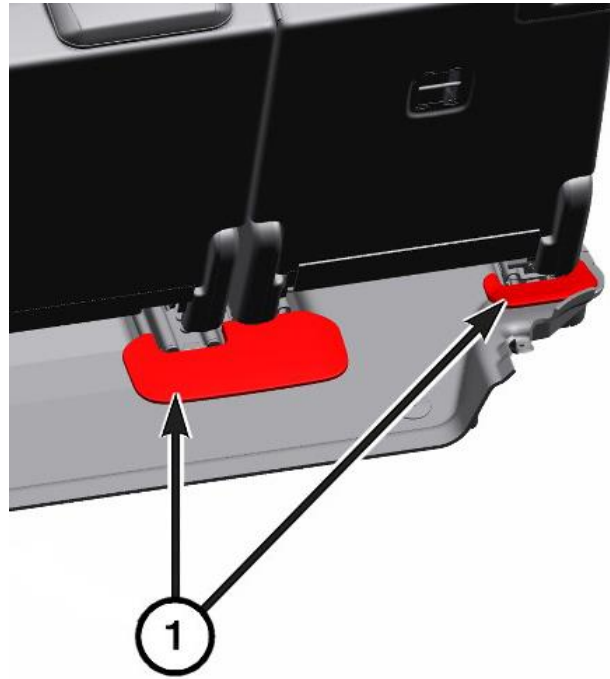

Figure 46 – Seat Track Trim Covers
7. Using a trim tool, remove the second row seat track rear trim covers (1) behind the 40% seat (Figure 46).